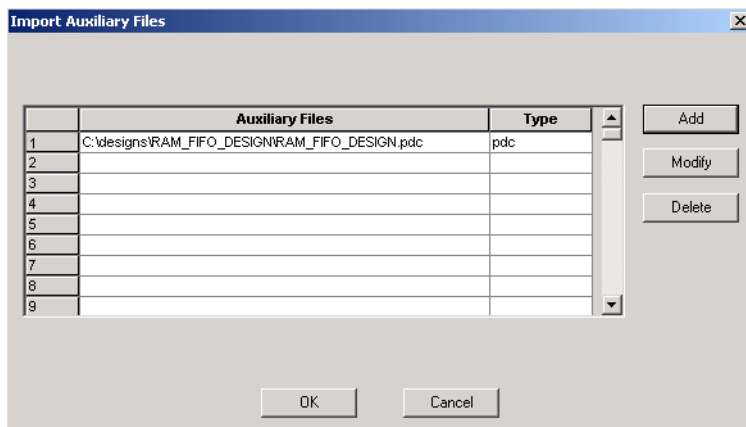

Figure 2-12. PDC File Added to the Import Auxiliary Files Dialog
3. Select the PDC file and click *Import*. The file is added to the **Import Auxiliary Files** dialog box, as shown in **Figure 2-12**.